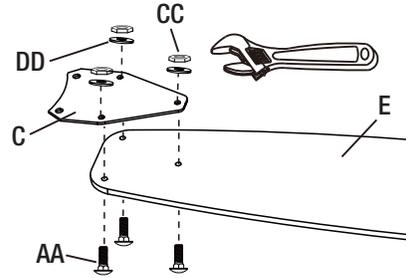

Figure 12
- Mount the blade holders (C) to the fan blades (E) using the carriage bolts (AA), hex nuts (CC) and flat washers (DD) provided - 3 each per blade (Figure 12).